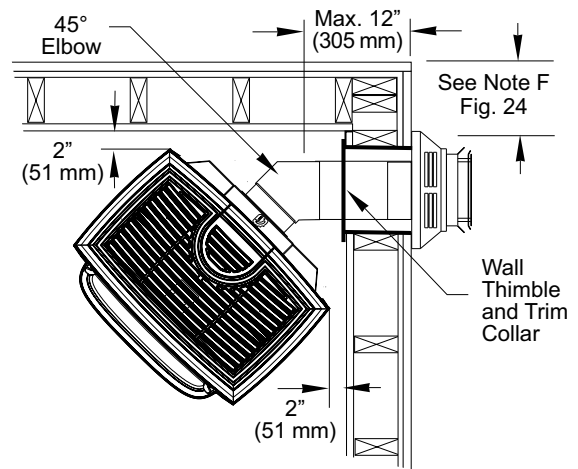

Figure 5.16. Corner installation with 36" Snorkel termination. Maximum horizontal run is 12".
- One 45° Elbow may be used for a corner installation as shown in fig. 5.16.